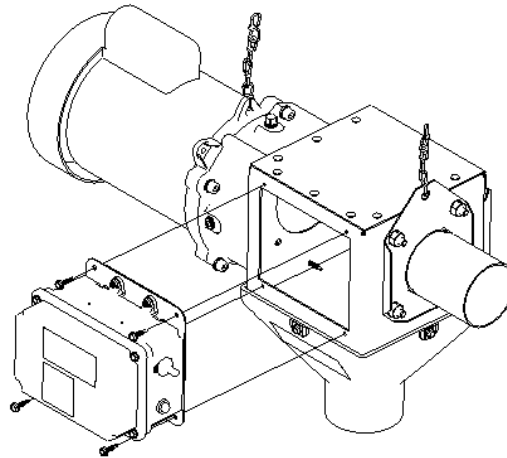

FIGURE 1
1. (Figure 1) Illustrates a typical installation example of the HS589 control unit switch assembly to a HS593 or other OEM Control Units.